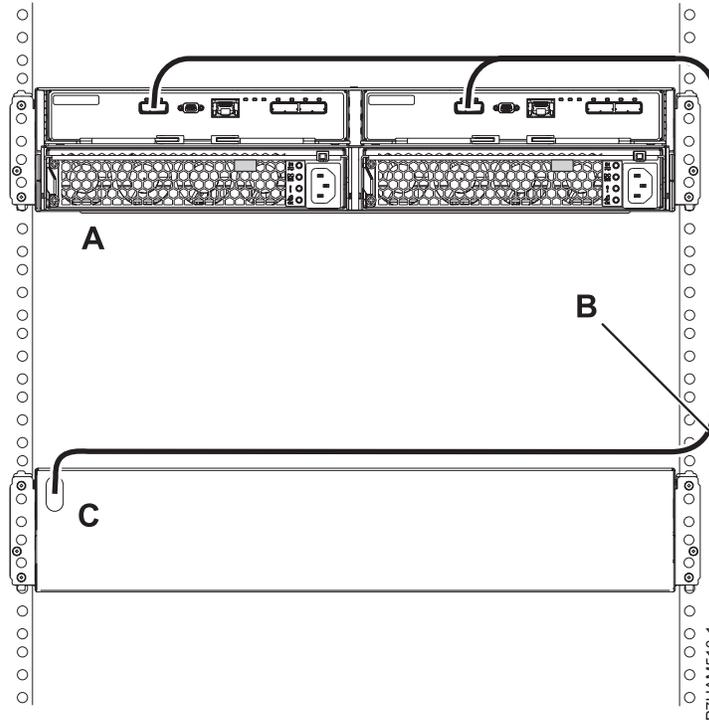

Figure 34. Mode 1 connection of one 58/87 disk drive enclosure by using a YI cable to a system with support for a single SAS drawer
8. Perform the mode 1 connection of one 58/87 disk drive enclosure (A) by using a YI cable (B) to a system with support for a single SAS drawer (C) as shown in Figure 34.